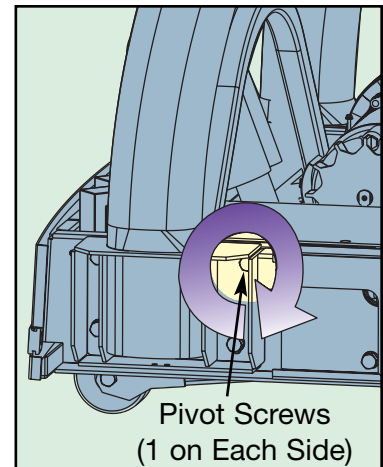

Figure 6
- C.** Tighten all 9/16" screws used during steps 7A and 7B including the two pivot screws (one on each side). See Figure 6.